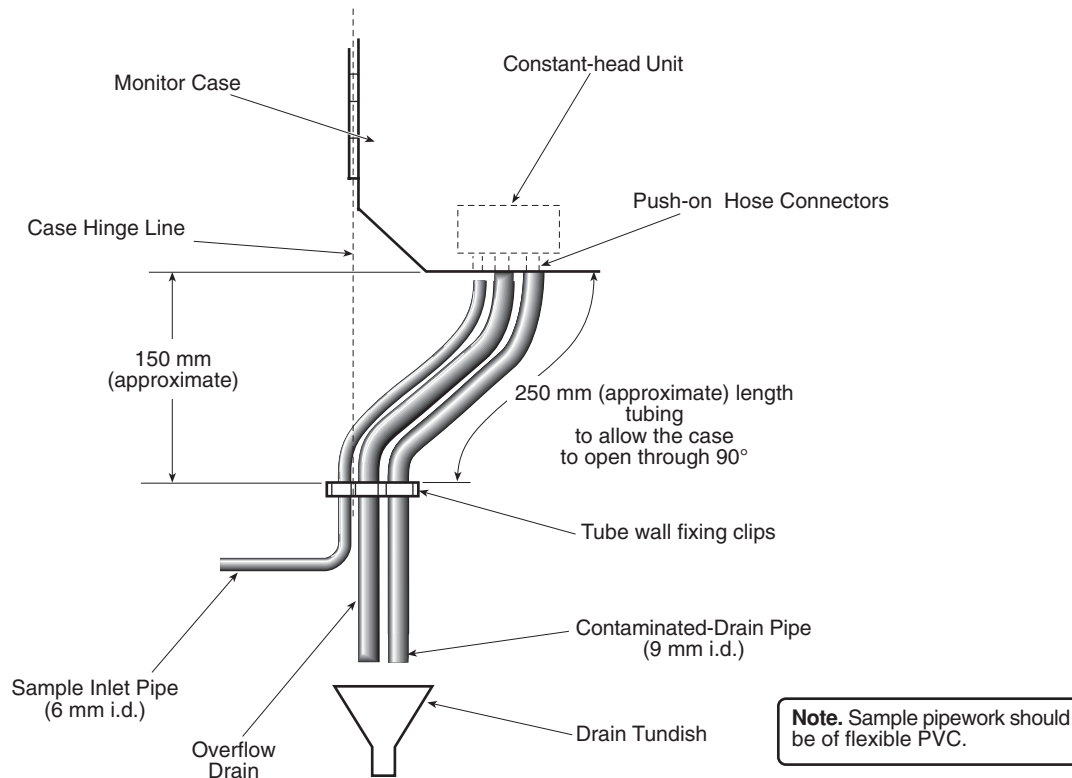

Fig. 2.2 Sample Connections
2.5 Sample Connections – Fig. 2.2